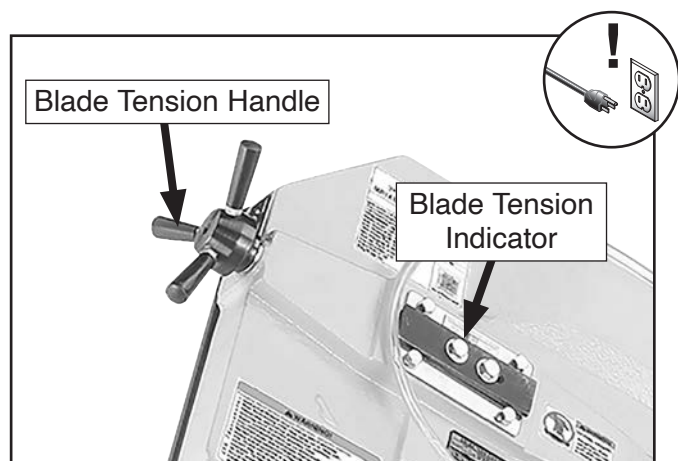

Figure 45. Blade tension components.
3. Turn blade tension handle clockwise to tension blade or counterclockwise to loosen blade until tension indicator is in green zone (see **Figure 45**).